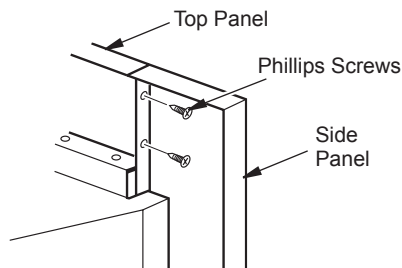

Figure 9 - Attaching Side Panels to Top Panel
6. Align screw holes in side panels with holes in top panel (see Figure 9). Insert and tighten #10 Phillips screws.